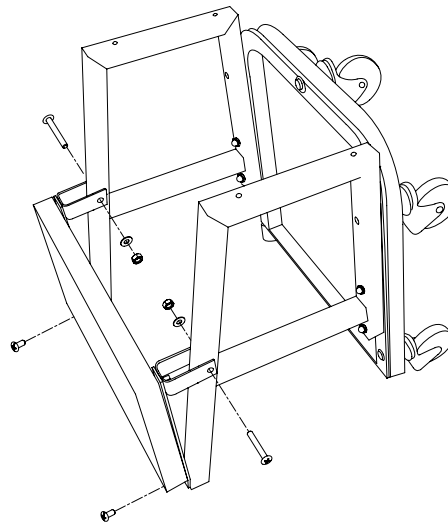

Figure 3 - Attaching Creeper Seat
3. Attach Creeper Seat to Creeper Side Frames using two M6 x 40 Phillips Head Screws, with Washers, and Nuts, and two M6 x 14 Phillips Head Screws as in Figure 3.